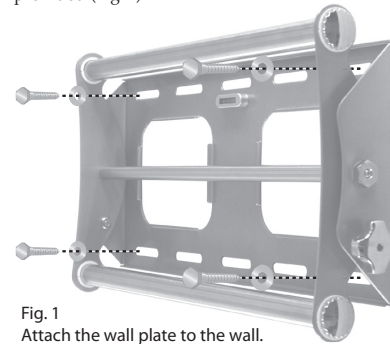

Fig. 1
5. With the help of another person, replace the wall plate and level it using the bubble guide. Fix it to the wall using the Lag Bolts (Q) and Lag Bolt Washers (R) provided (Fig. 1).
2. With the help of another person, mark off six (6) locations for fixing the mount to the wall.
4. Insert one Concrete Anchor (P) into each hole. A hammer can be used to lightly tap the anchors into place if necessary.